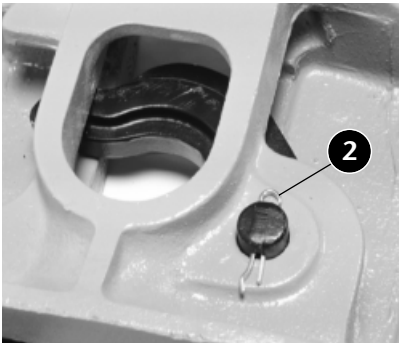

Figure 69
- Remove the clinch pin from the eccentric jaw pin (*Figure 69*).